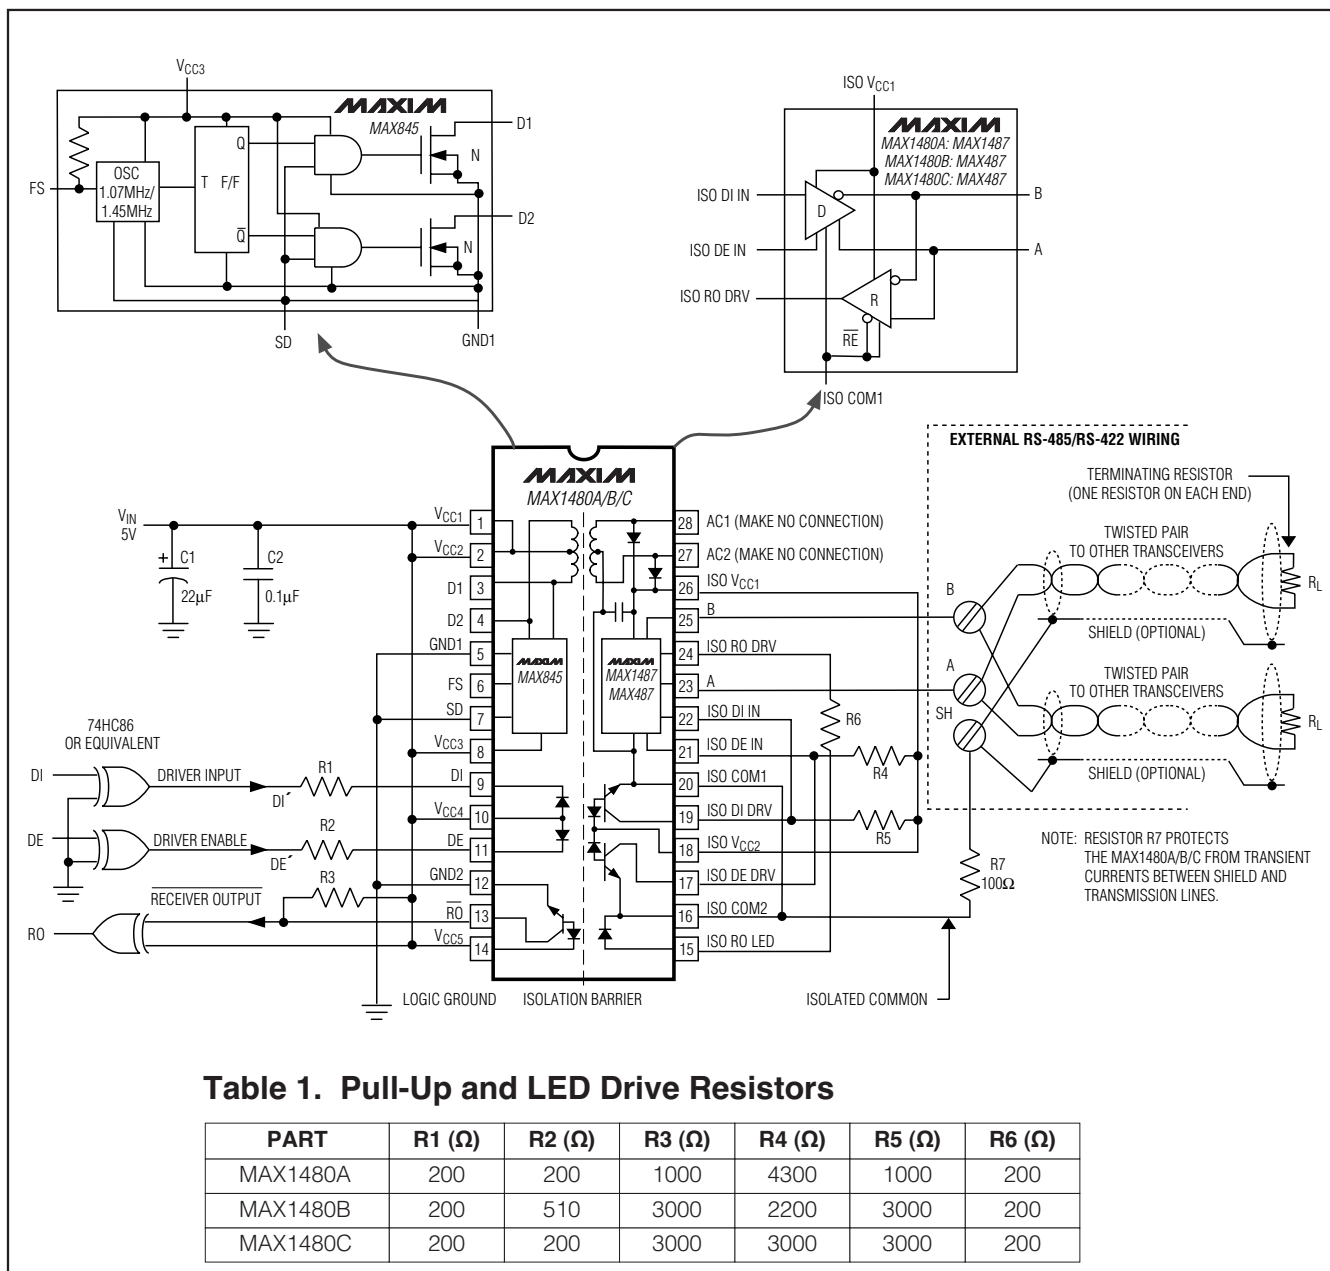
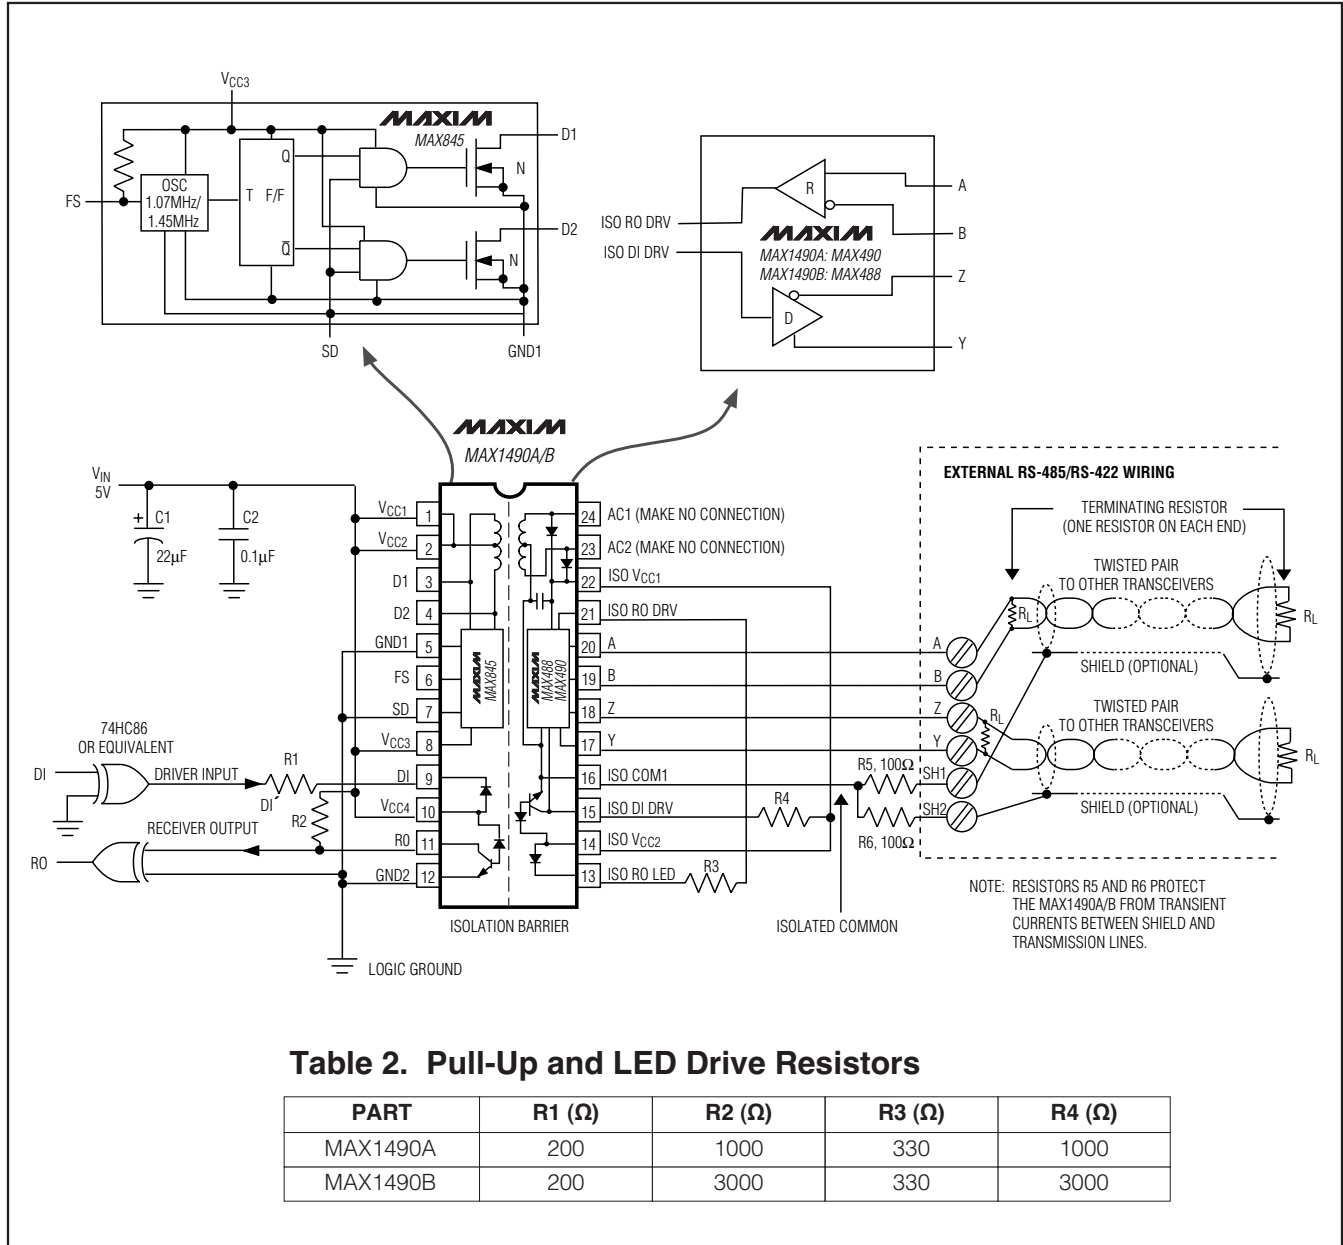

Figure 1. MAX1480A/MAX1480B/MAX1480C Detailed Block Diagram and Typical Application Circuit
Figure 2. MAX1490A/MAX1490B Detailed Block Diagram and Typical Application Circuit
Note 2: For DE' and DI' pin descriptions, see *Detailed Block Diagram and Typical Application Circuit* (Figure 1 for MAX1480A/MAX1480B/MAX1480C, Figure 2 for MAX1490A/MAX1490B).
Note: For DE⁺ and DI⁺ pin descriptions, see *Detailed Block Diagram and Typical Application Circuit* (Figure 1 for MAX1480A/B/C, Figure 2 for MAX1490A/B).
The MAX1480A/MAX1480B/MAX1480C/MAX1490A/MAX1490B are complete, electrically isolated, RS-485/RS-422 data-communications interface solutions. Transceivers, optocouplers, a power driver, and a transformer in one standard 28-pin DIP package (24-pin for the MAX1490A/B) provide a complete interface. Signals and power are internally transported across the isolation barrier (Figures 1, 2). Power is transferred from the logic side (nonisolated side) to the isolated side of the barrier through a center-tapped transformer. Signals cross the barrier through high-speed optocouplers. A single +5V supply on the logic side powers both sides of the interface. The MAX1480A/B/C offer half-duplex communications while the MAX1490A/B feature full-duplex communication. The functional input/output relationships are shown in Tables 3–6.
* For DE' and DI' pin descriptions, see Detailed Block Diagram and Typical Application Circuit (Figure 1 for MAX1480A/B/C, Figure 2 for MAX1490A/B).
The MAX1480A/MAX1480B/MAX1480C/MAX1490A/MAX1490B are specified and characterized using the resistor values shown in Table 1 of Figure 1 and Table 2 of Figure 2. Altering the recommended values can degrade performance.
The isolated common may be completely floating with respect to the logic ground and the effective network ground. The receiver input resistors will cause the isolated common voltage to go to the mean voltage of the receiver inputs. If using shielded cable, connect the isolated common to the shield through a 100Ω resistor. In the case of the MAX1490, each shield should have its own 100Ω resistor (Figures 1, 2, 13, and 14).